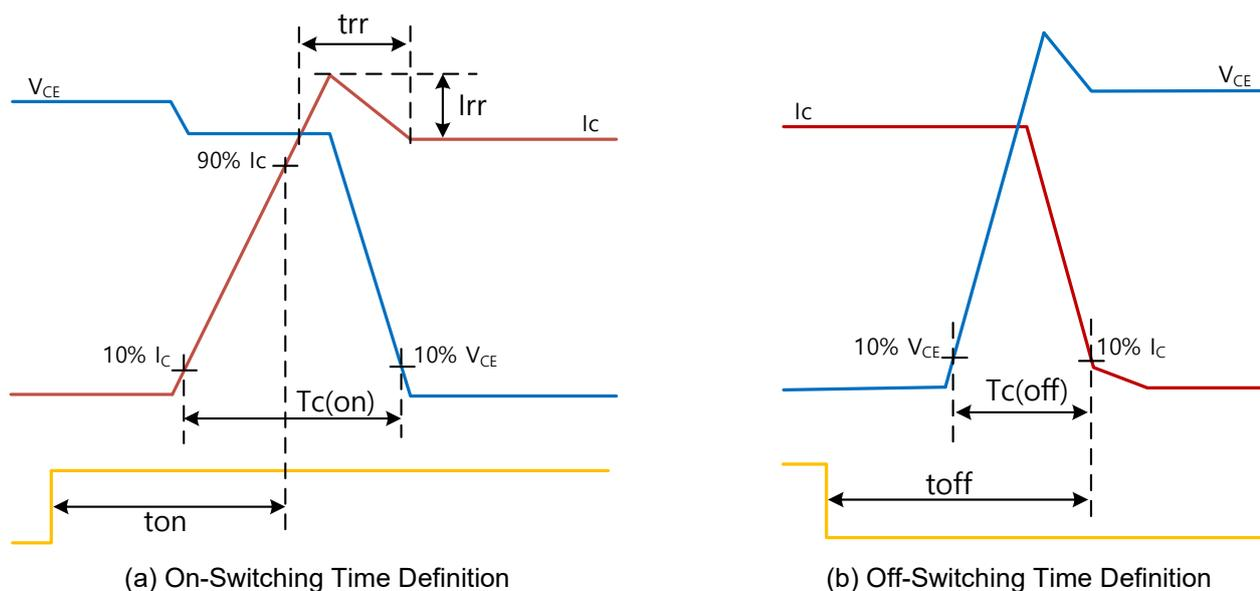
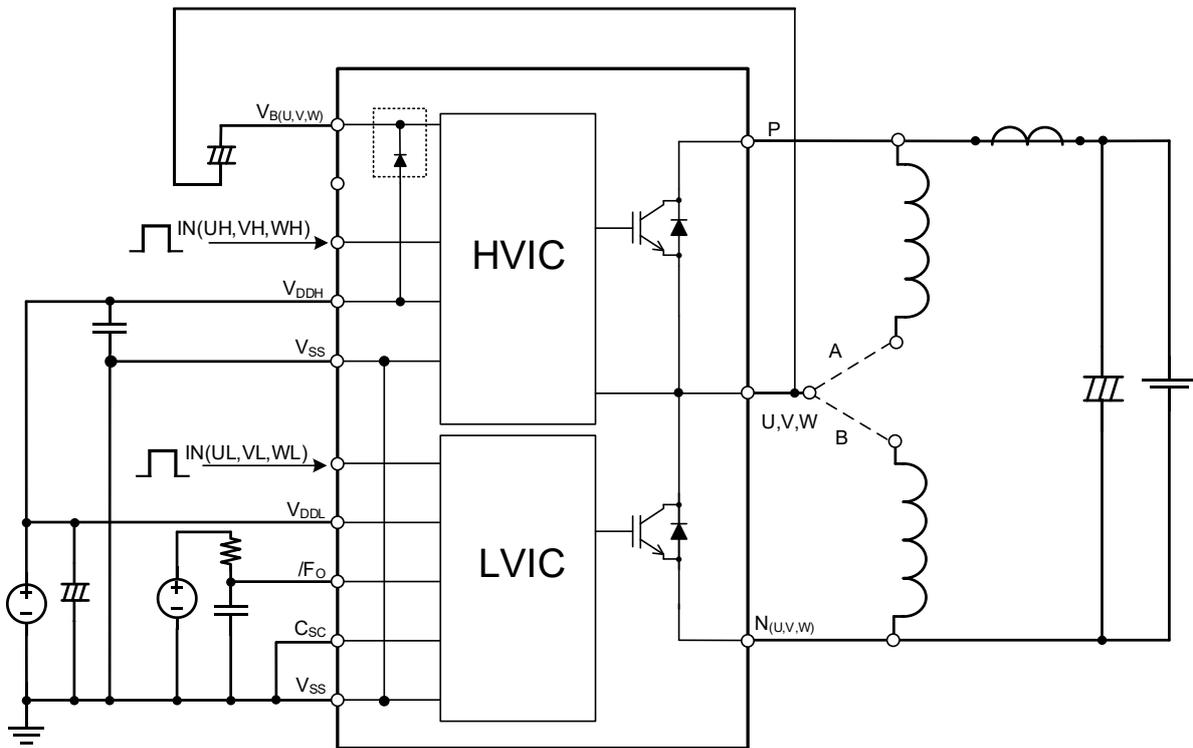

Fig. 3 Switching Time Definition
Fig. 4 Evaluation Circuit (inductive load) IGBT Evaluation
1. t_{on} and t_{off} include the propagation delay of the internal drive IC. $t_{c(on)}$ and $t_{c(off)}$ are the switching times of IGBT under the given gate-driving condition internally. For the detailed information, please see Fig. 3.
Switching time definition and performance test method are shown in Fig. 3 and Fig. 4 Switching characteristics are measured by half bridge circuit with inductance load.